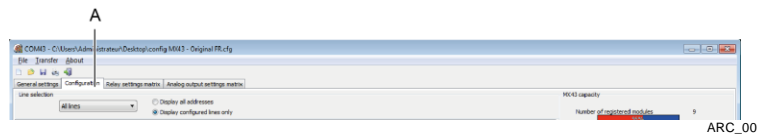
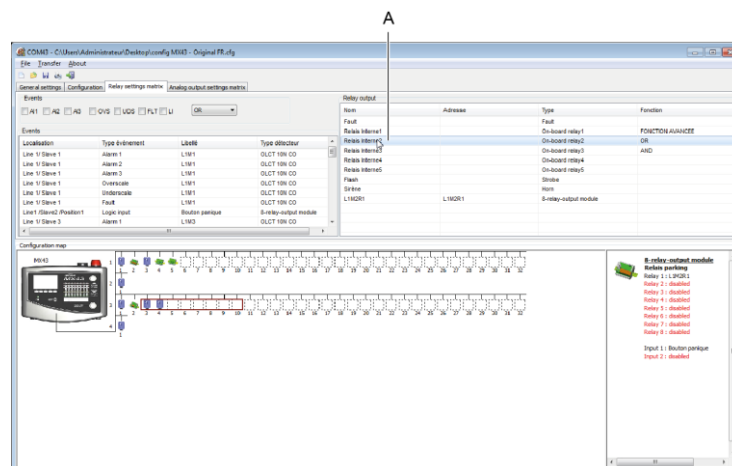
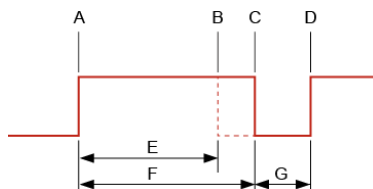
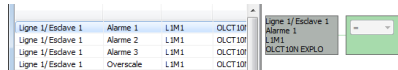

Figure 21: Configuration tab
Figure 24: Information displayed in the *Relay settings matrix* tab
Figure 27: Operation of the buzzer relay
Figure 32: The event is assigned to the first block
1. To display the configuration window (Figure 27), click on the Configuration tab (Figure 21 Figure 24, A).
- *Reset inhibit*: minimum activation time between 0 and 15 minutes (Figure 27, E). No manual reset (Figure 32, B) or automatic reset (Figure 32, C) is authorized during this time. Reset is possible only when the *Reset inhibit* ends.
- *Automatic reset*: minimum relay activation time before automatic reset (Figure 27, C). The value of this time (Figure 27, F) must be greater than the *Reset inhibit* value (Figure 27, E).
- *Reactivation time*: time (Figure 32, G) after which the relay is reactivated if the alarm event is still present. A new activation cycle is then launched (Figure 27, D).